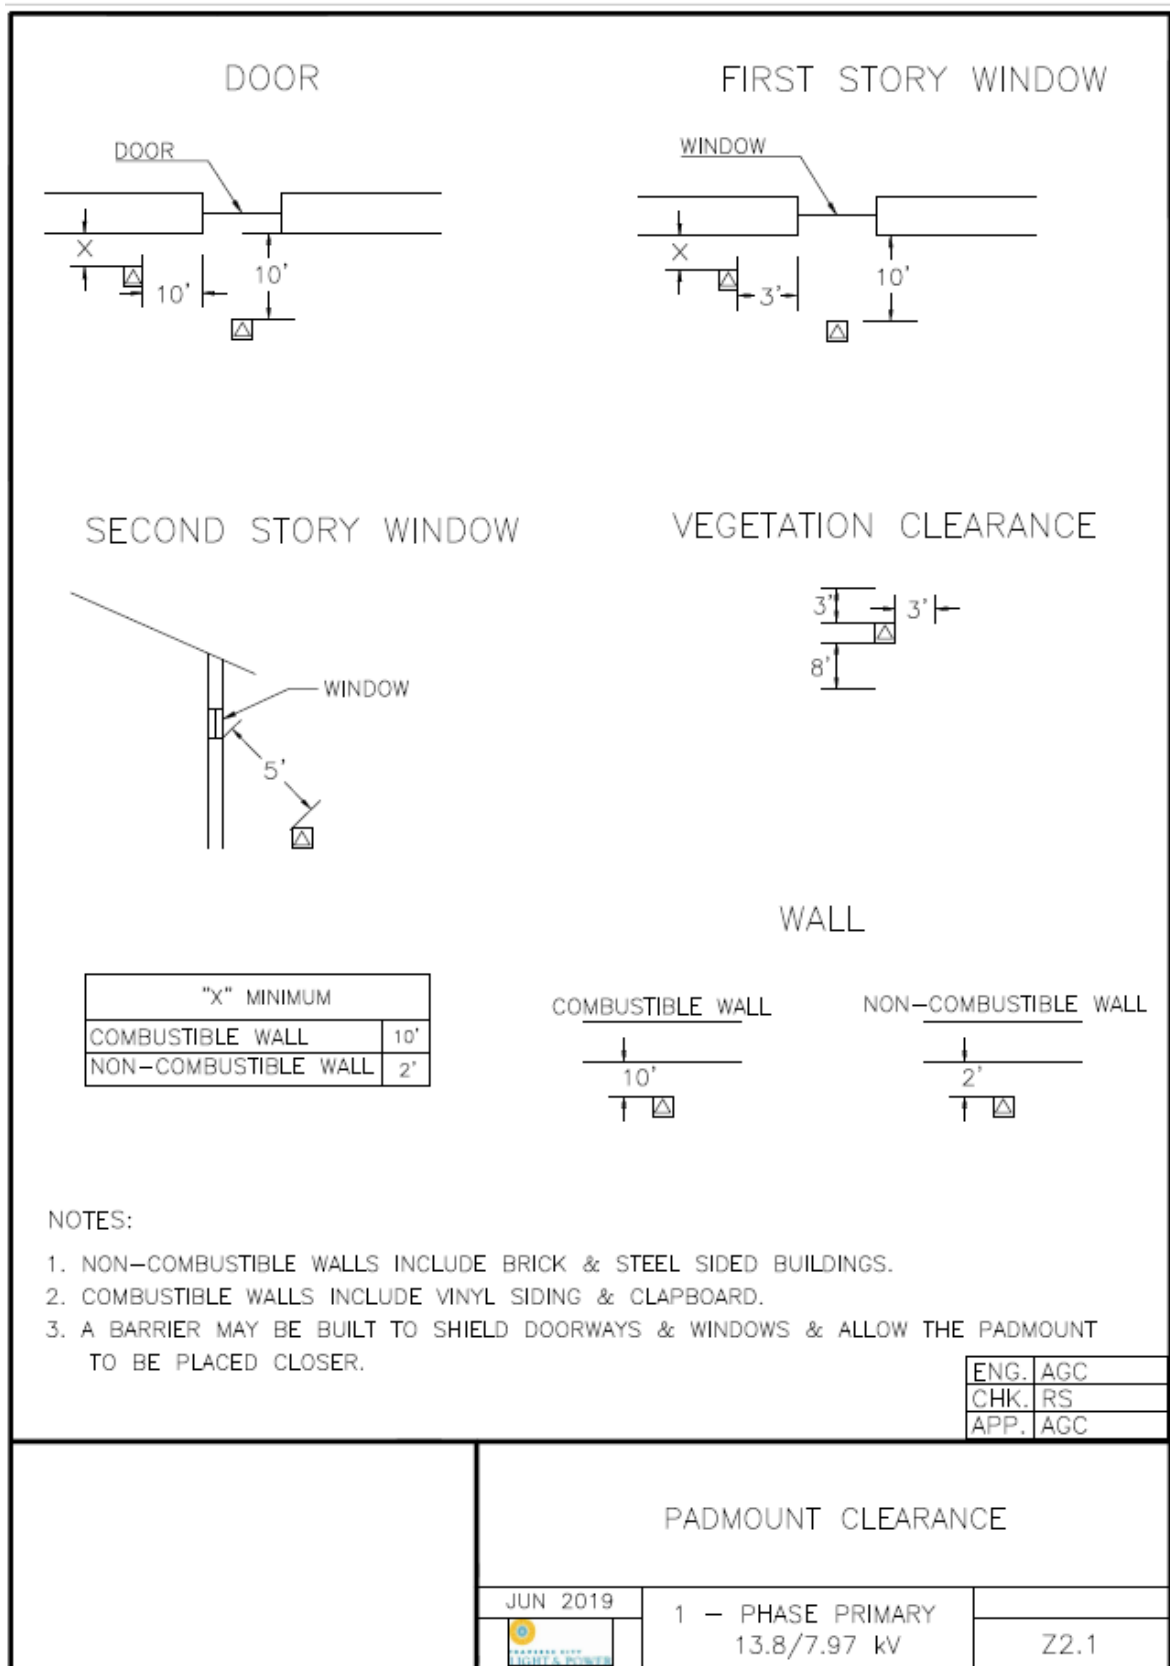

Figure 8.1 – Padmount Clearances
- e. Refer to Figure 8.1 for more detail.